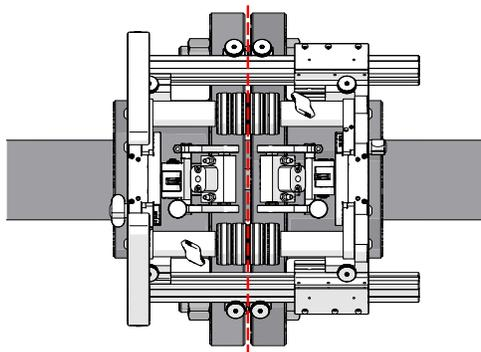

Fig. 24 - Align scanner on the flange
1. Place the scanner on the inspection surface (Fig. 24) and ensure the scanner is correctly aligned with the centre of the flange coupling.